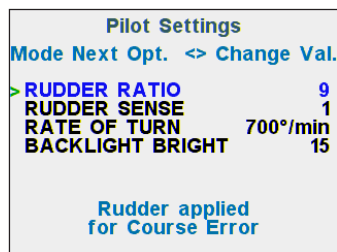

Figure 2:- Pilot Settings
- Press **MODE** button, Pilot Settings will appear (Figure 2).